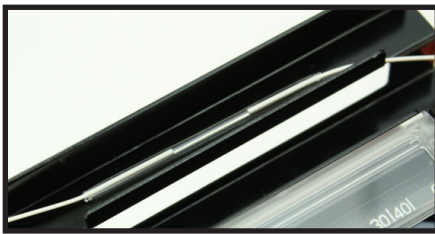

Figure 7
7. Transfer the splice to the splice sleeve heat oven on the right-hand side (Figure 7). Verify the position of the splice sleeve is butted up against the metal portion of the splice-on connector. Use the 60 mm heater mode #1 with center and edges activated. Press the HEAT button to run the shrink cycle.